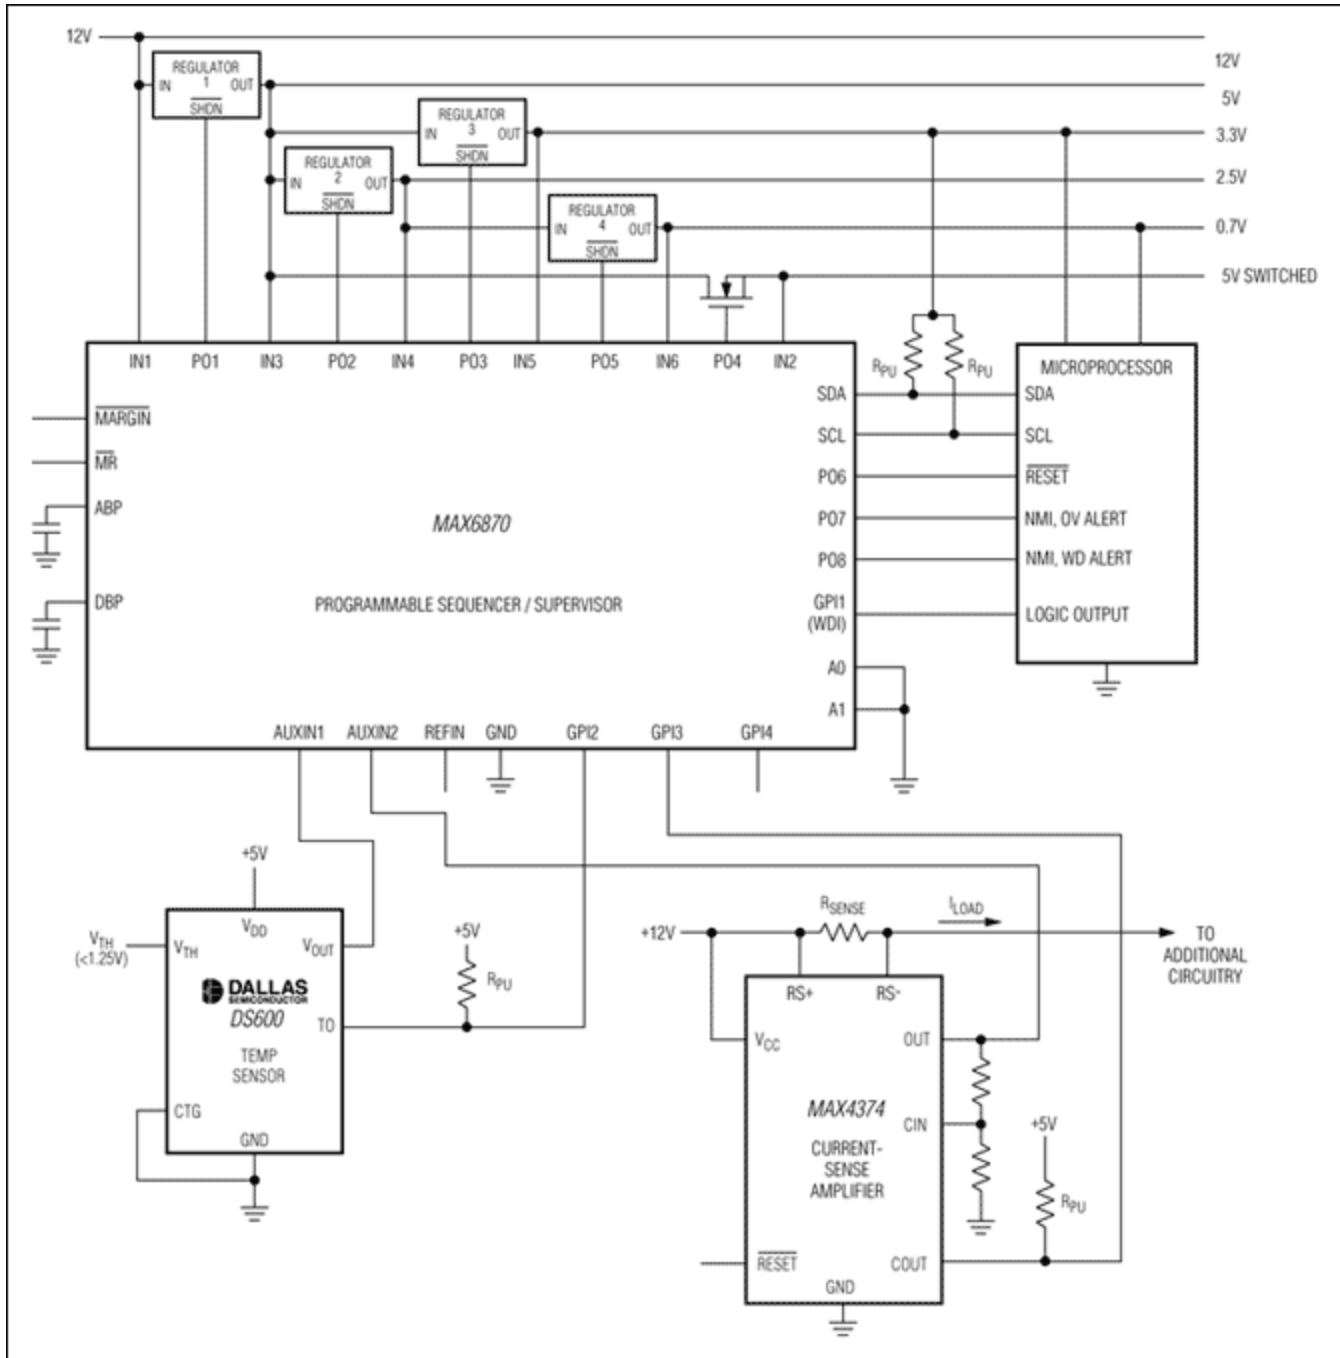

Figure 7. A programmable system-management device provides a flexible means for voltage monitoring and sequencing.
**Figure 7** shows a MAX6870 system-management device set up to monitor and sequence several system supplies. When the +12V bus voltage powers up and exceeds its threshold (stored within the MAX6870), one of the MAX6870 outputs enables the +5V voltage regulator, either immediately or after a delay period (also stored within the MAX6870 memory). After the +5V regulator comes up and its output crosses its corresponding threshold, the +3.3V supply is taken out of shutdown. The remaining supplies then power up in succession under this same scheme, except that the +5V switched supply becomes available when the MAX6870 enhances the n-channel pass element.
You can usually program this type of system-management device to provide additional supervisory functions such as reset circuits and watchdog timers. These devices can also monitor parameters other than supply voltage through their analog and digital inputs. In the circuit of Figure 7, AUXIN\_ (analog inputs) and GPI\_ (digital inputs) monitor a temperature reading and a power-supply current-sense reading. The MAX6870 includes a 10-bit ADC that digitizes those readings; the microcontroller monitors the status of those digitized readings. The temperature sensor and the current-sense monitor each include a comparator output that indicates that a fault has occurred (i.e., the temperature or the current exceeded a specific limit). Each comparator output connects to a MAX6870